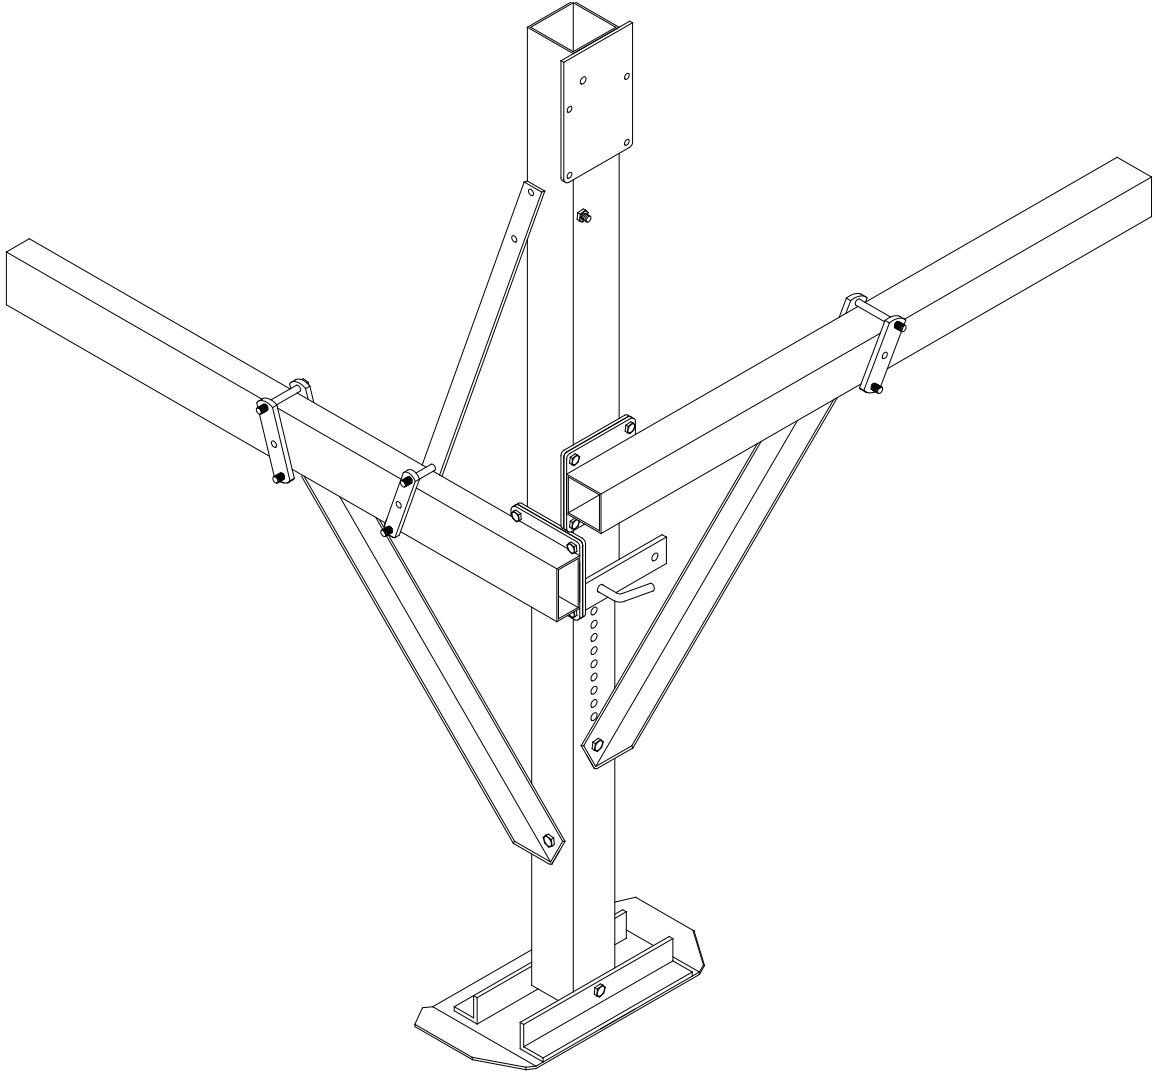

Figure 3-2.
1. Before moving lift to operating position, insure the completed extension leg assembly appears as shown in **Figure 3-2** and all hardware is securely fastened.